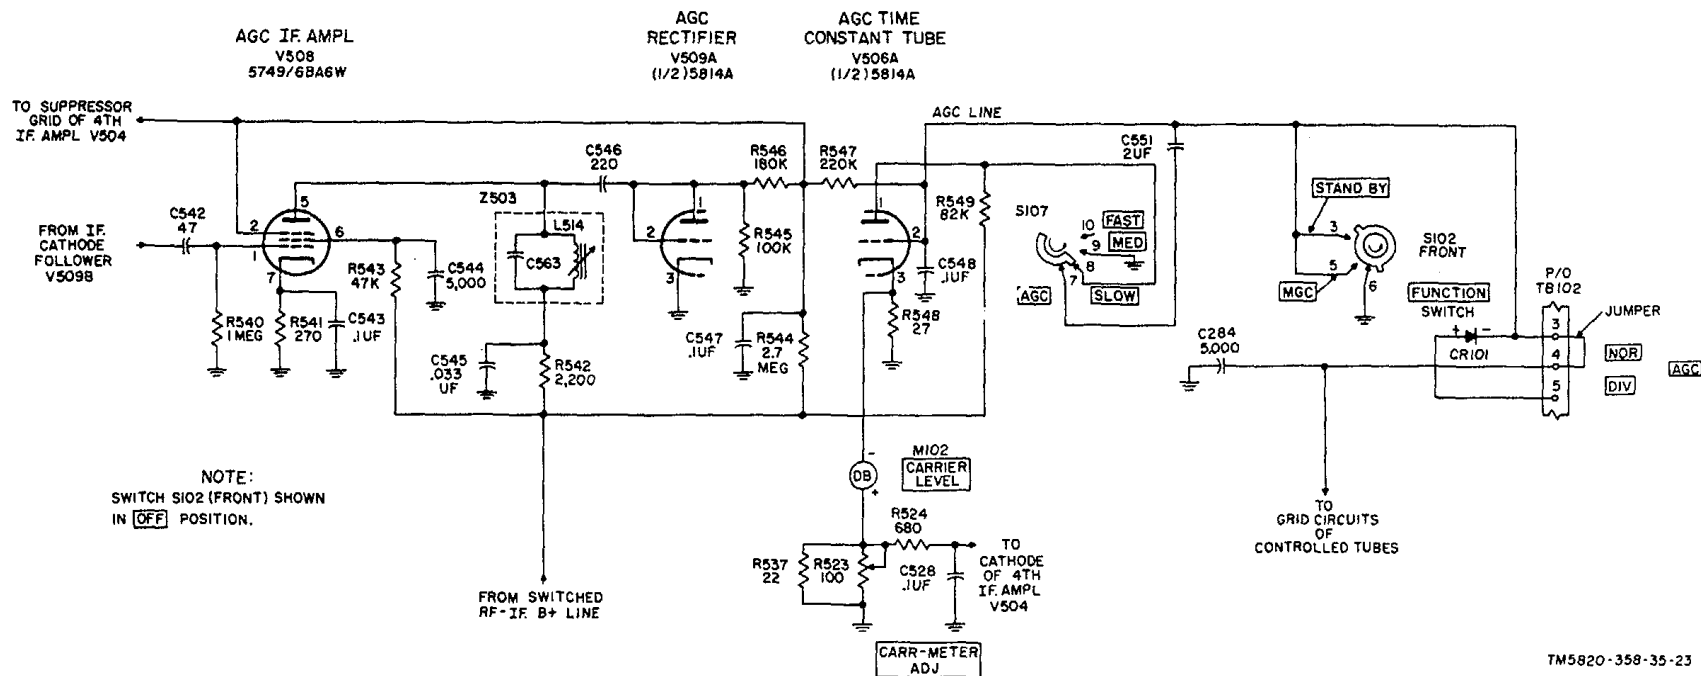

Figure 21. Agc circuit, simplified schematic diagram.
## 21. Automatic Gain Control Circuit (fig. 21)
- (2) MED. In the MED (medium) position, the age line is influenced by the same rc combinations as in the FAST position, plus the additional capacitance of C551 in parallel with C548 through 'AGC switch S107, terminals 7 and 9.
- (3) SLOW. In the SLOW position, the time required by the agc line to follow the fading signal is maximum. This is often useful for holding the receiver gain constant with on-off keying, which would otherwise raise the noise level between characters. In the SLOW position, the rc combination used in the FAST position is used, plus the time constant produced by capacitor C551 connected to the plate of agc time constant tube V506A rather than to ground as in the MED position. The time constant in the SLOW position is approximately 16 times that achieved in the MED position. As the agc bias at the control grid of V506A goes more negative, the voltage drop across plate resistor R549 decreases and the plate voltage of V506A rises. At this point, capacitor C551 begins to charge to the level of the agc voltage, as referenced to the B+ level at the plate of V506A. As this charging advances, the plate voltage of V506A continues to rise, and C551 continues charging to the new plate voltage level. This bootstrap action continues until the grid of tube V506A reaches the level of voltage at the junction of R546 and R547. The rate of discharge of C551 is also retarded in the same way since it must discharge through V506A.
*d. Diversity Circuit.* When two receivers are used in a diversity reception system, the jumper on TB102 (fig. 21), normally connected between terminals 3